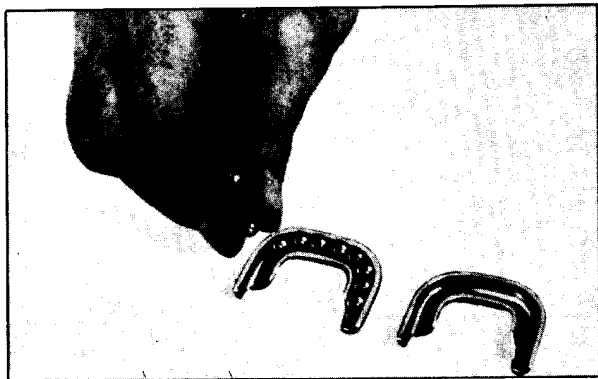

Figure 18—Filling Ball Guides
5. Lay one-half of a ball guide on bench with groove up. Place the remaining balls for the first circuit into groove of the guide (fig. 18). Close this half of ball guide with other half. Hold the two halves together and plug each open end with heavy